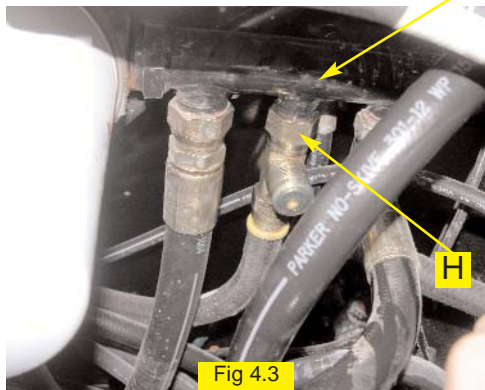

Fig 4.3
Remove the tank line from the return-oil manifold and install the run-tee fitting (H). (Figure 4.3) Re-attach the tank line to the end of the run-tee. Use plastic caps to prevent excess leakage from open ports.